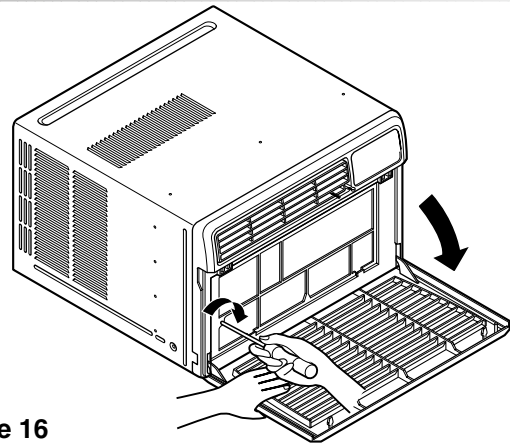

Figure 16
2. Remove the screw which fastens the front grille.(See Figure 16)